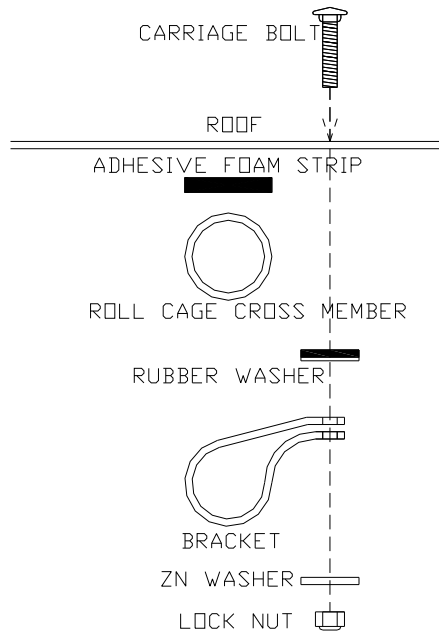

Figure 2
7. Next, attach the roof mount brackets according to **Figure 2**. Use channel locks or pliers to hold top of carriage bolt and turn nut with 7/16" socket.